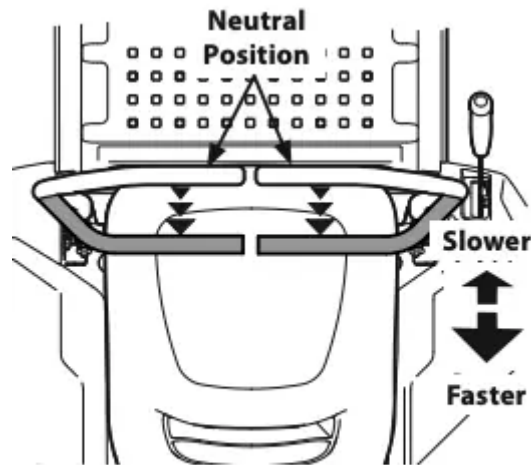

Figure 22
1. Slowly and evenly move both lapbar drive control levers rearward. The tractor will start to move in the reverse direction. See Figure 22 .